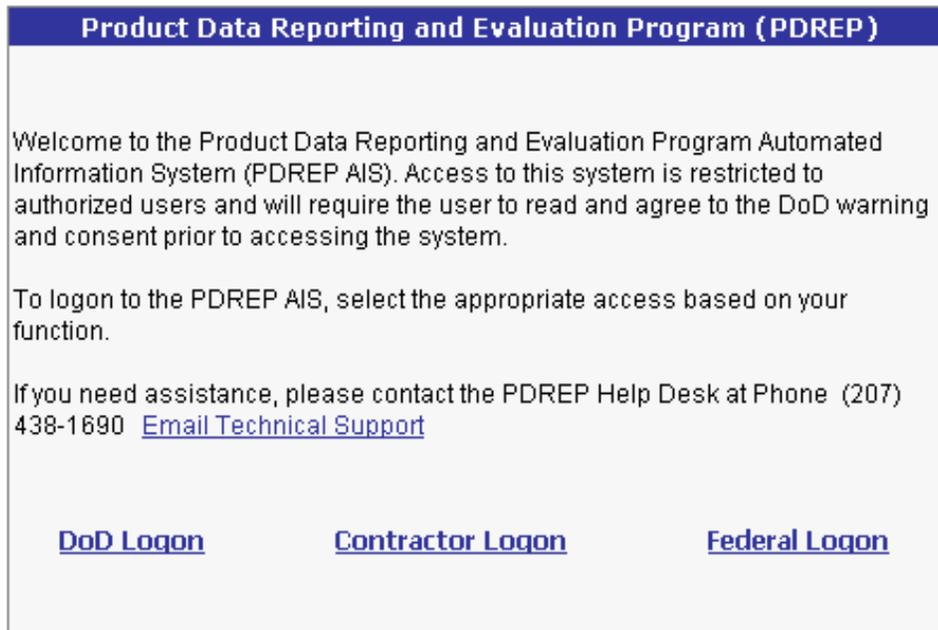

Figure 1.2
- c. The Log-on screen (Figure 1.2) displays.